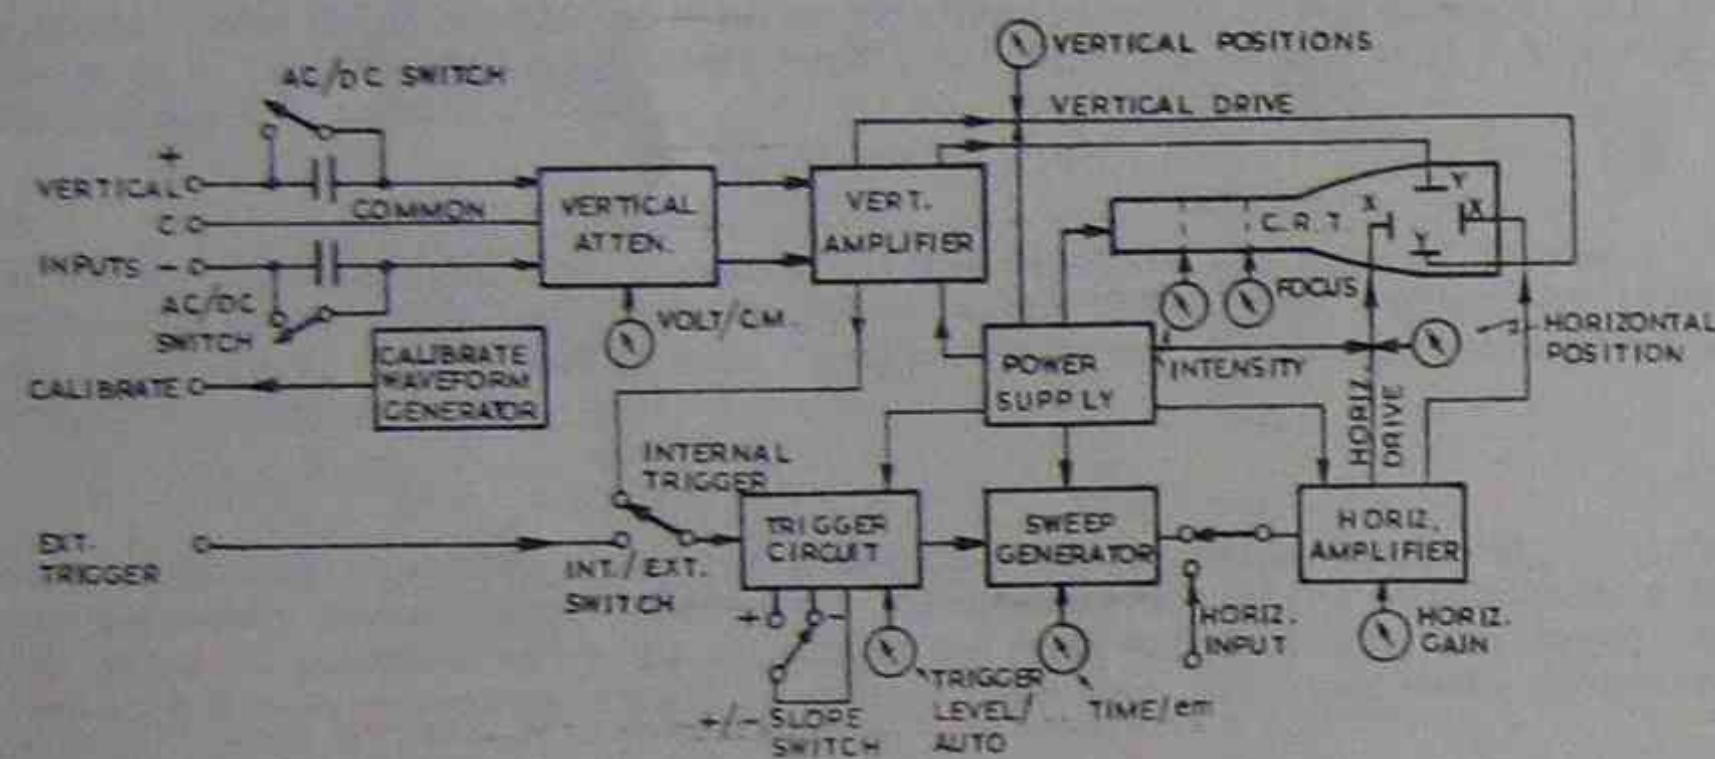
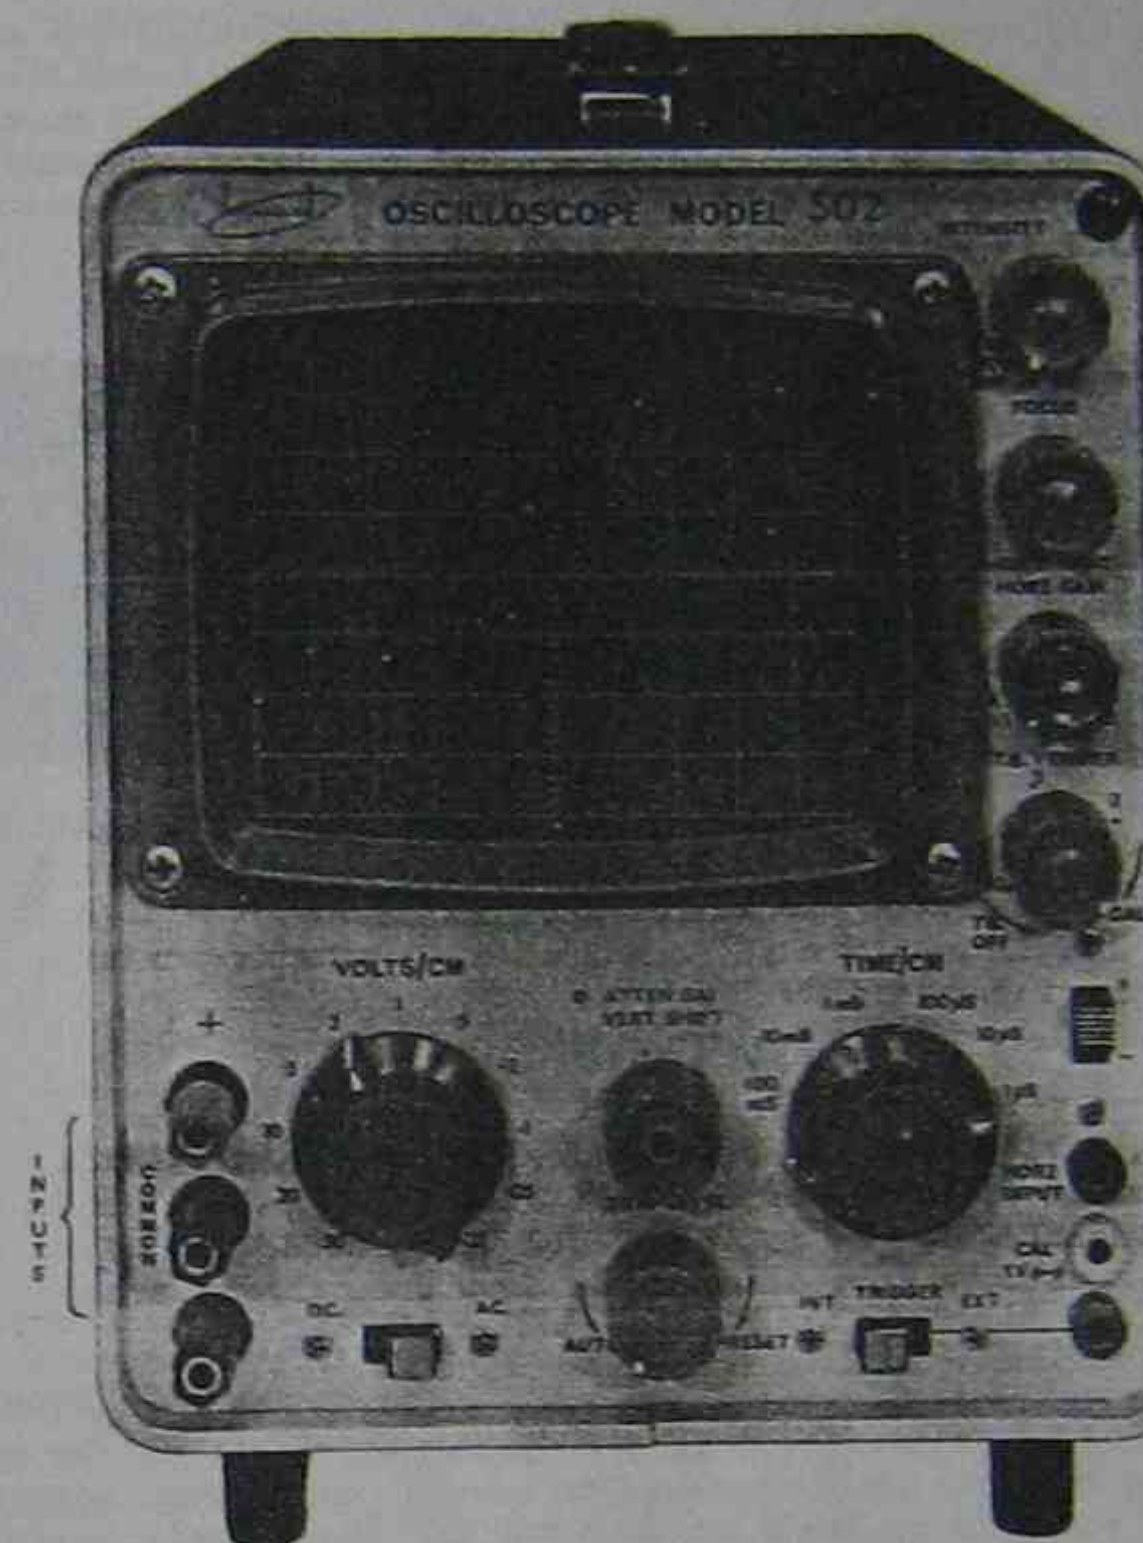
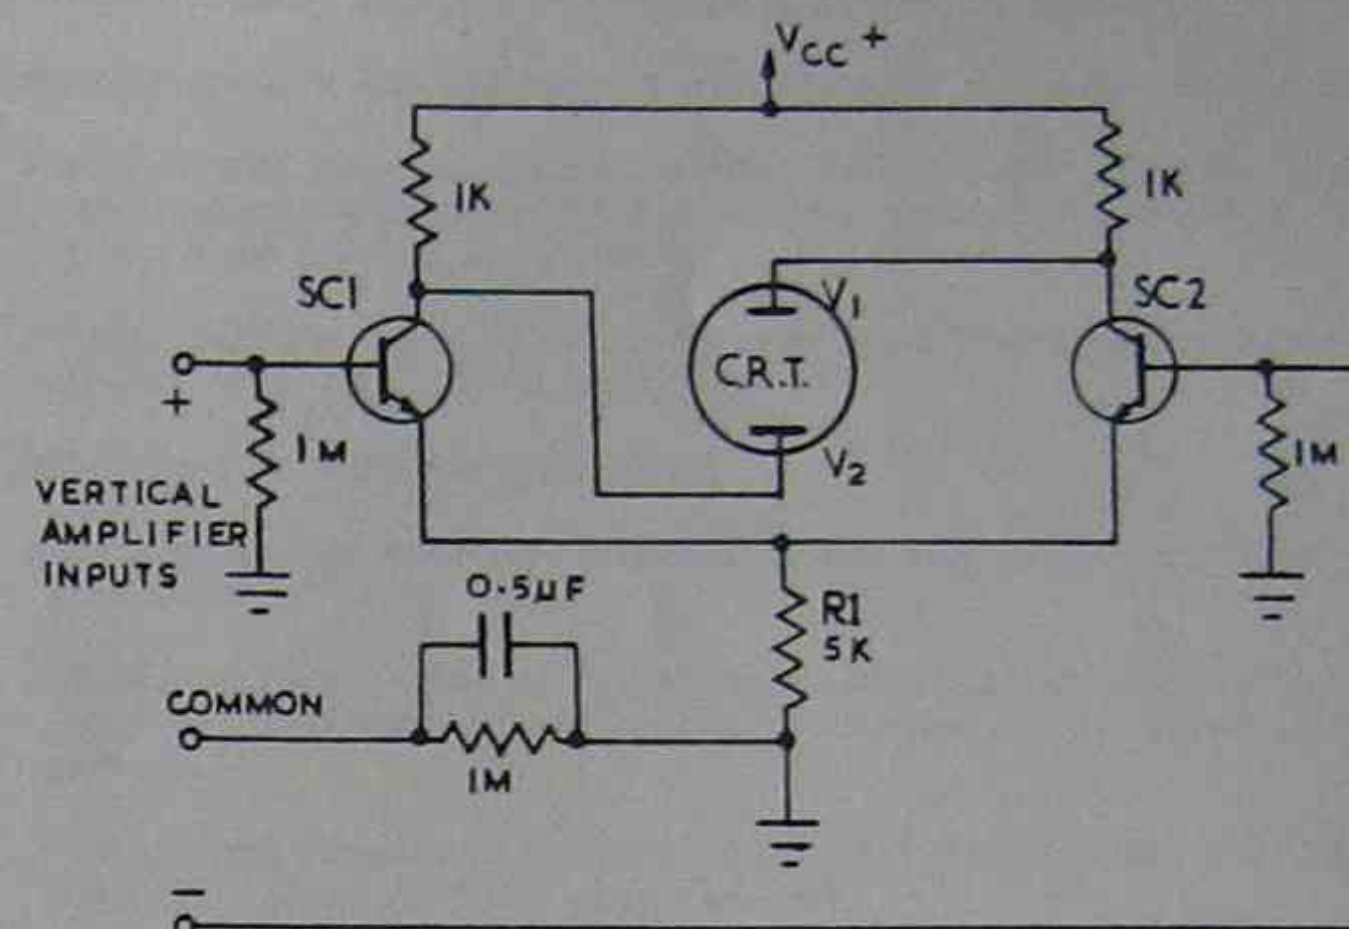

FIG. 24. OSCILLOSCOPE CONTROLS.
FIG. 25. CALIBRATED OSCILLOSCOPE.
FIG. 37. DIFFERENTIAL AMPLIFIER.
8.1 GENERAL. Associated with an oscilloscope are a number of controls which permit the instrument to be adjusted for satisfactory operation. In Fig. 24 the block diagram of the basic oscilloscope is modified to show the location of the controls usually included in an oscilloscope. The purpose of the controls and the effects obtained by adjusting them are explained in the following paragraphs. The location of the controls of a typical calibrated C.R.O. are shown in the photograph in Fig. 25.
8.2 VERTICAL INPUT CONNECTIONS. The oscilloscope shown in the photograph in Fig. 25 has three input terminals, situated in the left hand corner. The reason for the three terminals is that this oscilloscope is fitted with two similar vertical input channels, each with its own input attenuator and amplifier. One input channel is connected between the + terminal and the common terminal and the other input channel is connected between the - terminal and the common terminal.
10.1 The vertical input amplifiers in the C.R.O. shown in Figs. 24 and 25 are not isolated from each other completely, but are both connected to a common vertical deflection system. The method of interconnection is such that a signal applied to either amplifier develops signals of opposite polarity on the deflection plates to produce a more linear deflection. Fig. 37 shows a simplified input amplifier of this type without its bias arrangements. Assume that SC1 and SC2 are conducting and that a signal is applied between the + and common terminals. A positive signal applied to SC1 has the following effects:
10.2 An amplifier of the type shown in Fig. 37 can be used in several different ways to suit particular testing situations. The two methods most commonly used for vertical input connections are: